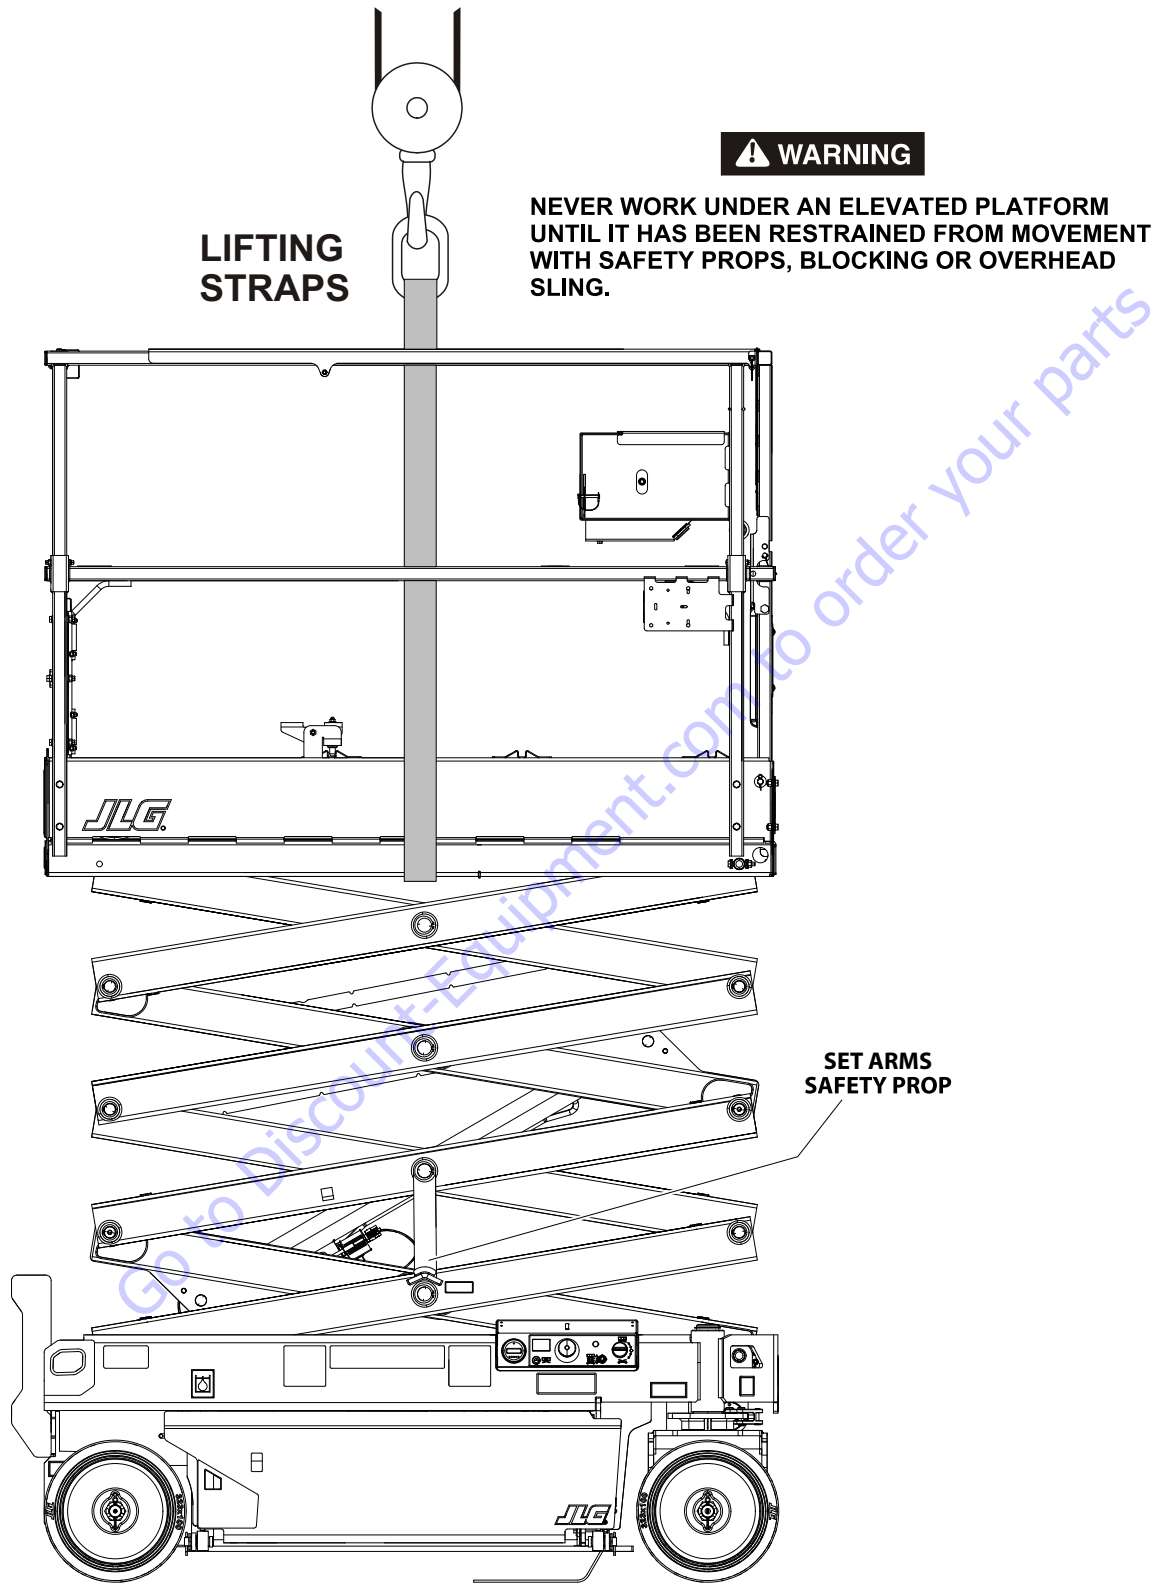

Figure 3-27. Arms and Platform Positioning with Overhead Support
The arm stack can be supported by using an overhead crane, See Figure 3-27. If an overhead crane is not available the stack may also be lifted by using a fork-truck using the following instructions:
1. Support the platform using an overhead crane with straps capable of lifting at least 500 lb (227 kg) See Figure 3-27.